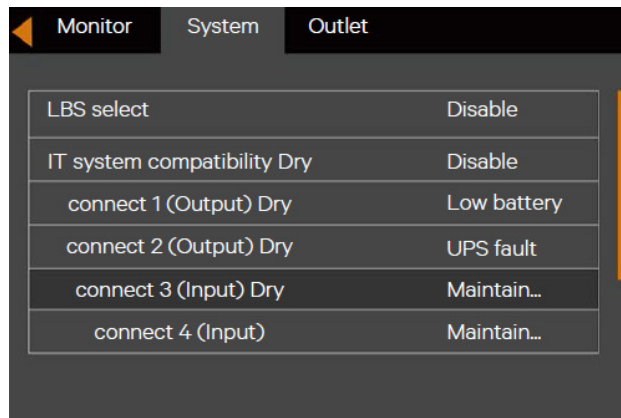

Figure 5-7 Changing dry contact 3 to “Maintain Mode”
1. Through the LCD settings page, change the Dry connect 3 to 'Maintain mode'. See Figure 5-7.